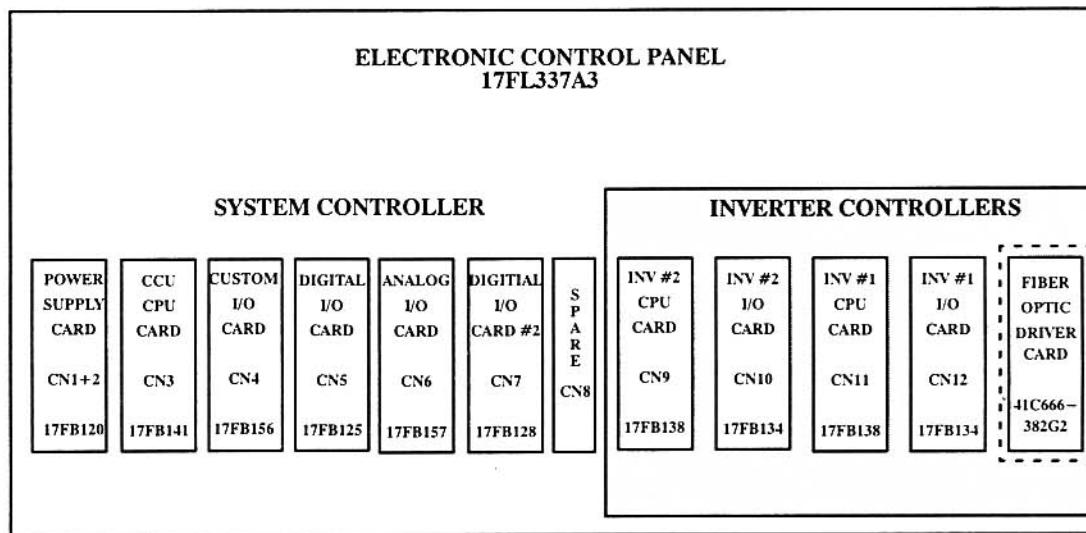

Figure 7–38 Propulsion Electronic Control Panel
The cards are all contained in the Electronic Control Panel (EP), shown in Figure 7–38, except for the Fiber Optic Driver Card which is mounted on the exterior of the EP.